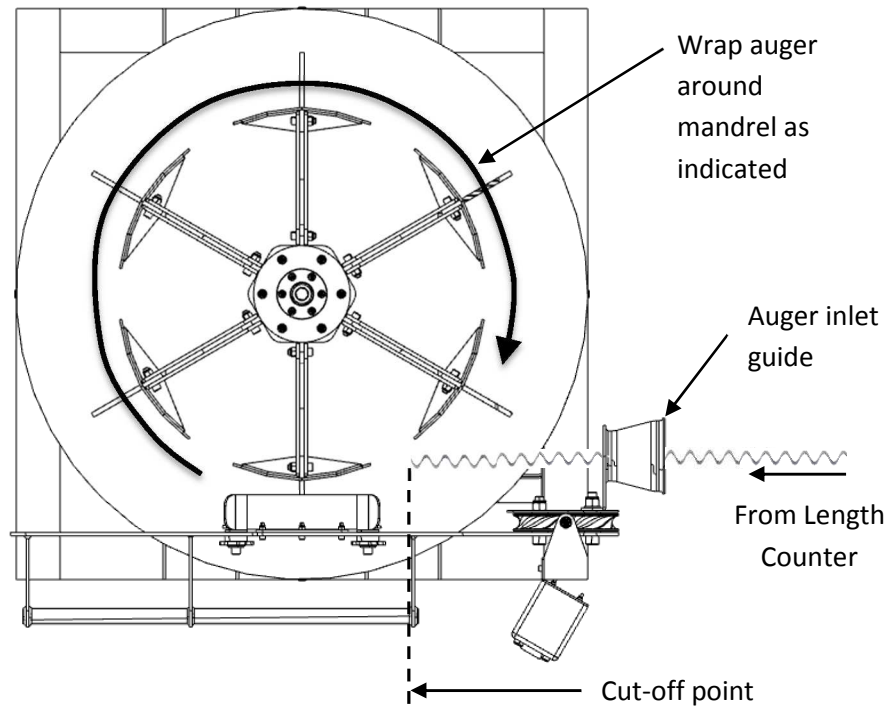

Figure 18: Setting up the coiler
3. After the decoiler has been properly set up and the length counter is ready and calibrated, feed the auger through the inlet (Figure 18).
6. Continue to pull the auger through the inlet and wrap around the mandrel as shown in Figure 18.
- Auger inlet guide (Figure 18)